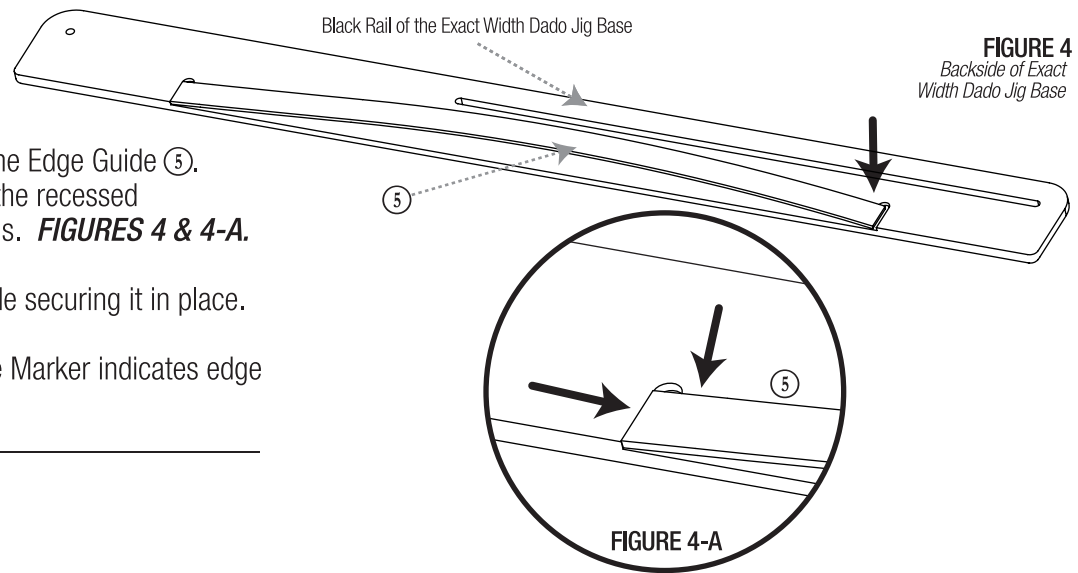

FIGURE 4
- ⑤ (2) Edge Guides *(also sold separately)*
1. Remove transfer tape backing from the Edge Guide ⑤. Locate each end of the Edge Guide into the recessed corners on the backside of the Black Rails. **FIGURES 4 & 4-A.**